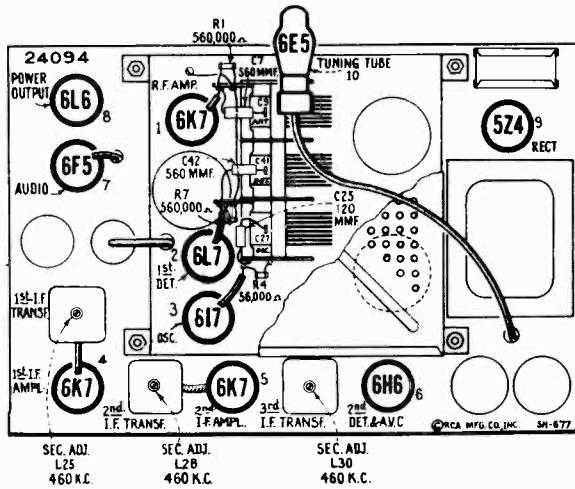

Figure 1—Radiotron and I-F Trimmer Locations
Make alignment apparatus connections shown on figure 1. Remove the plug of the frequency-modulator
cable from the test oscillator jack. Connect the receiver chassis to a good external ground. Connect oscillograph "Vertical" input terminals as indicated on figure 1. Set oscillograph power switch to "On" and adjust "Intensity" and "Focus" controls to give a clearly defined spot on the screen. Set oscillograph "Ampl. A" switch to "On", "Vertical gain" control full clockwise, "Ampl. B" switch to "Timing", "Range" switch to No. 7 position, and "Timing" switch to "Int." Place the "Sync." control, "Freq." control, and "Horizontal gain" control to about their mid-positions. For each of the following adjustments, the test oscillator output must be regulated so that the image obtained on the oscillograph screen will be of the minimum size for accurate observation. The receiver volume control setting is optional.
- (c) Adjust the tuning indicator (see figure 1) to L29 (see figure 1) and S) of the third RF transformer (one on top and one on bottom) to produce maximum vertical deflection of the oscillographic image. This adjustment places the transformer in exact resonance with the 460 kc signal.
- (k) Note width of oscillographic image at a point which is 10% of maximum amplitude. Turn receiver dial control to extreme clockwise position. Note width of oscillographic image at a point which is 10% of maximum amplitude. Under normal conditions the latter measurement should be approximately 60% greater in width than the former measurement. The image should also appear slightly double humped. These conditions indicate proper broadness of the band width of the RF amplifier. Turn range selector to "Medium wave" (B) band and note increase of amplitude. The amplitude should increase several times. It may be necessary to decrease output of test oscillator to keep image on screen. Turn receiver fidelity control to extreme counter-clockwise position and proceed to "RF Adjustments."